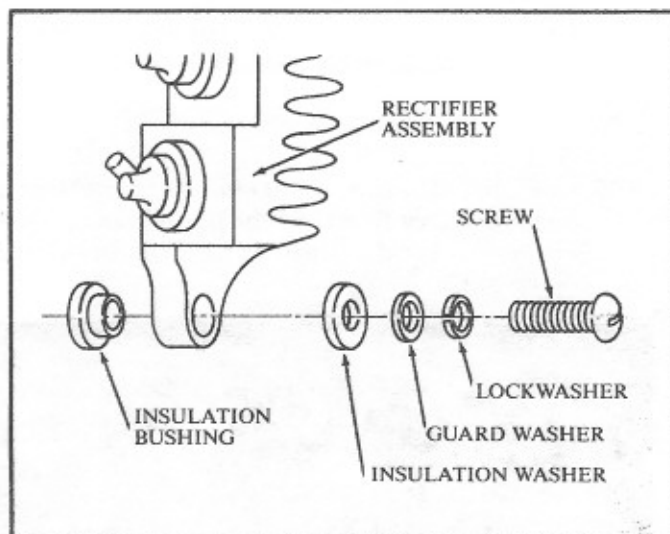

Figure 29
- 3.12 Insert 10-32 screw with washers through bottom hole of negative rectifier assembly and slide insulation bushing on screw so rectifier assembly is sandwiched between insulation bushing and insulation washer. Fig. 29.
- 3.18 Slide insulation bushing on 10-32 screw so rectifier assembly is sandwiched between insulation bushing and insulation washer. Fig. 29.